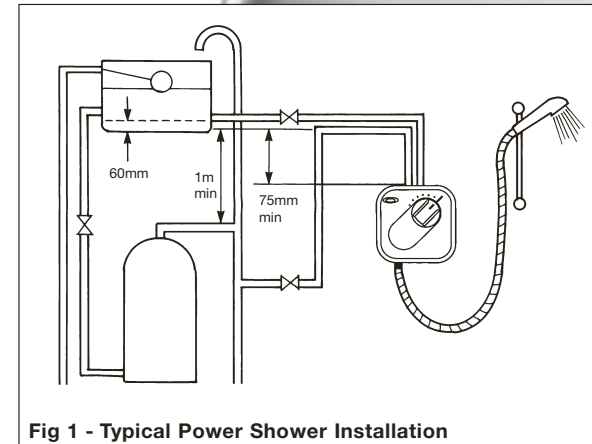

Fig 1 - Typical Power Shower Installation
- For correct operation of the ShowerForce 1000-XM Power Shower both hot and cold water supplies to the unit must be gravity fed, at equal pressures, from a cold water storage tank and hot water storage cylinder, Fig 1.
Procedure - Plumbing Connections: Fig 1.